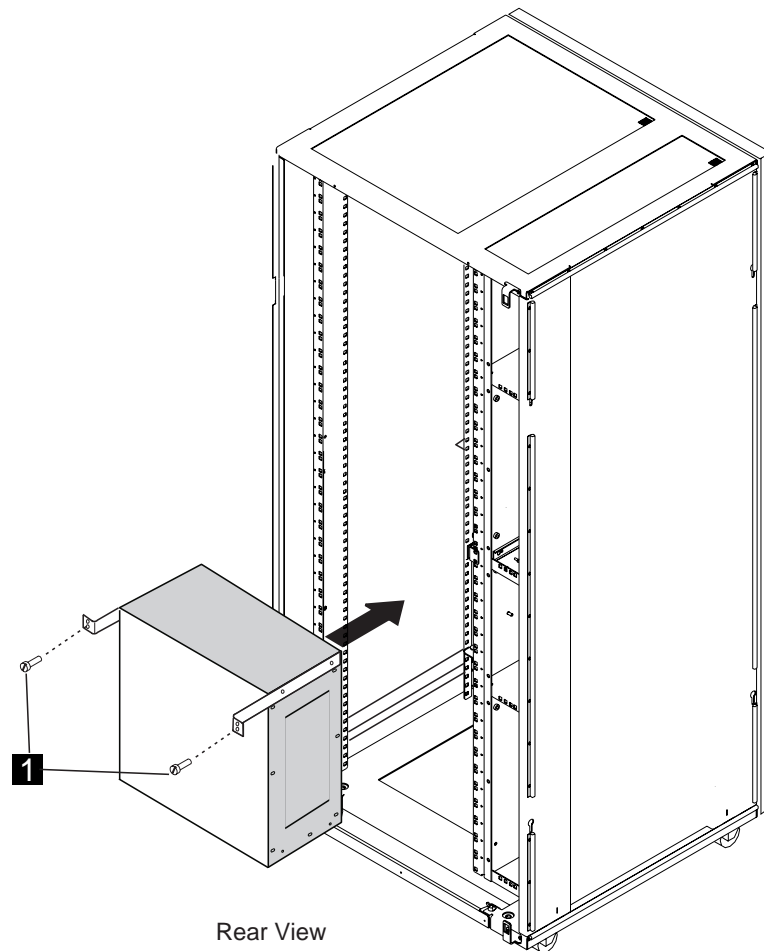

Figure 1-6. Installing MAE in the Controller Expansion
- 7. At the back of the controller expansion (with the help of a second CE), **set** the MAE on the brackets and fasten the MAE using two screws **1** (PN 1621230) as shown on Figure 1-6.